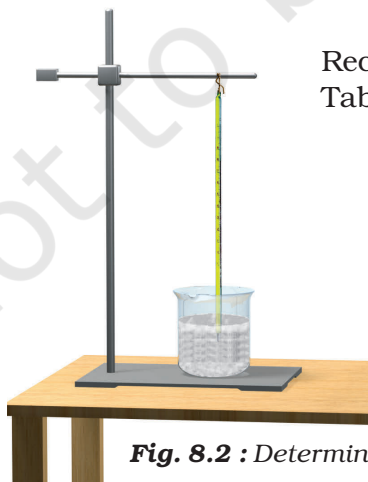

Fig. 8.2 : *Determination of melting point of ice*
2. Insert the bulb of the thermometer into the ice and let it stand in a vertical position (Fig. 8.2).